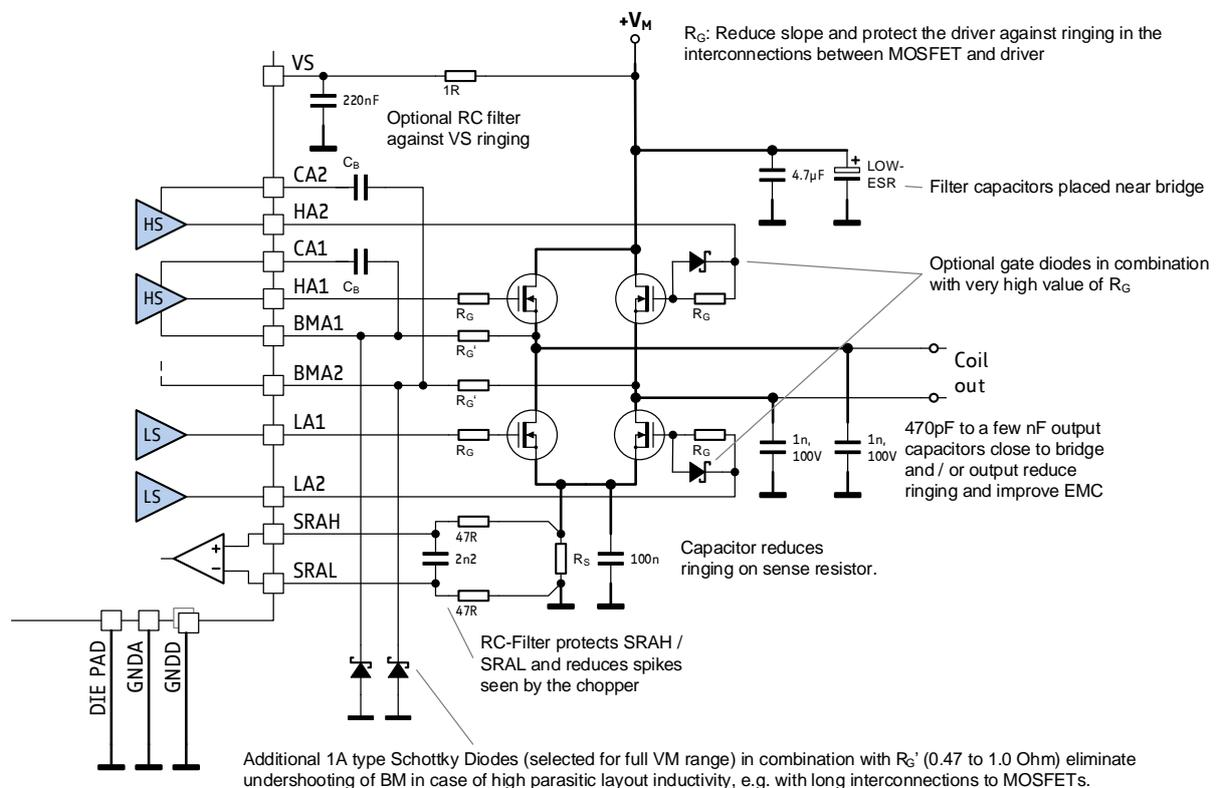
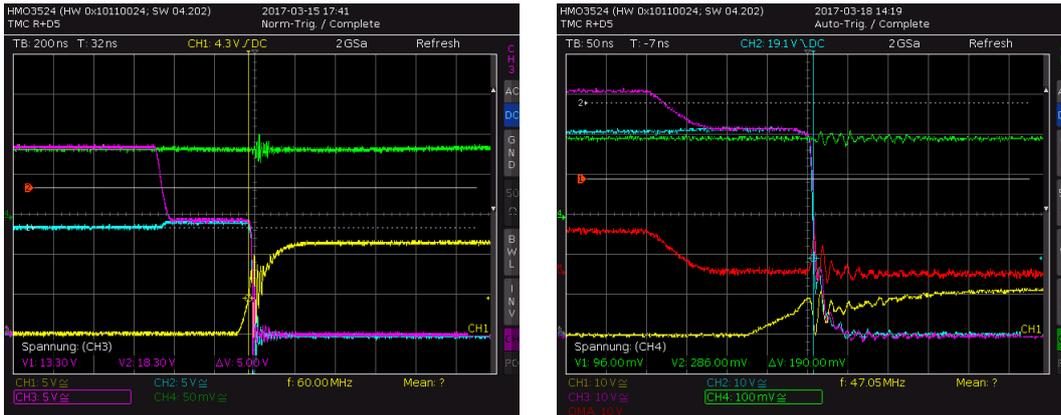
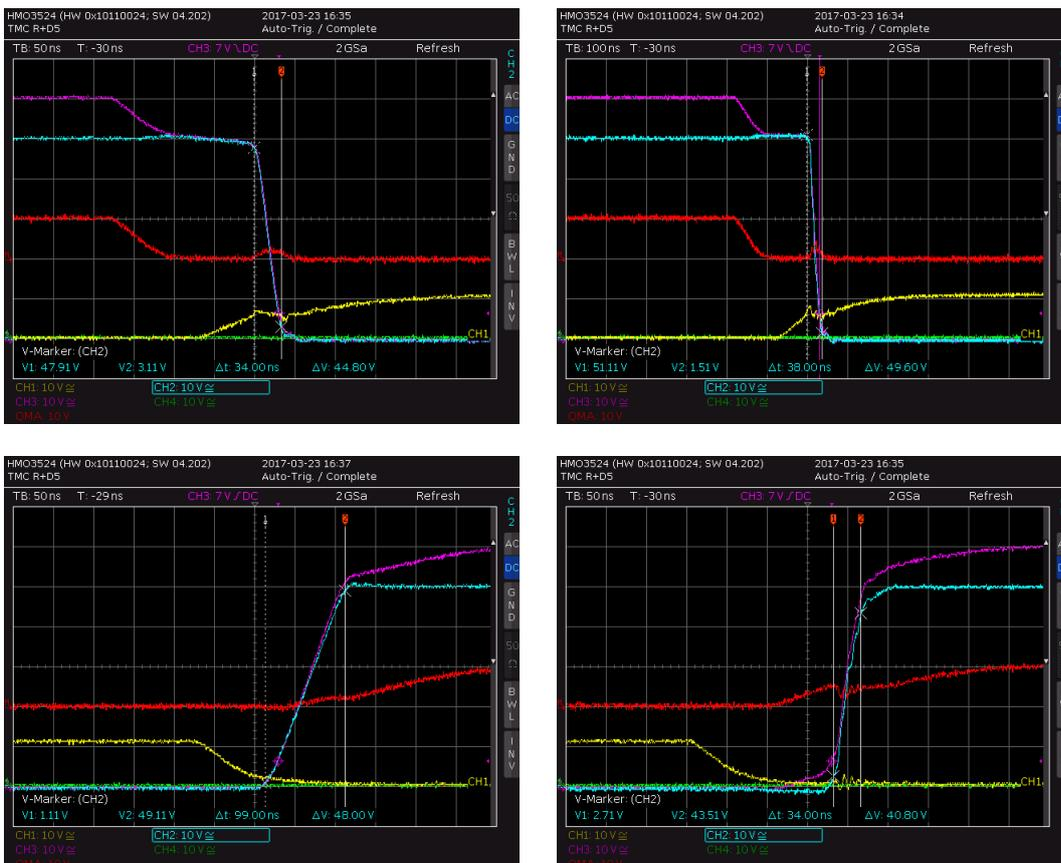
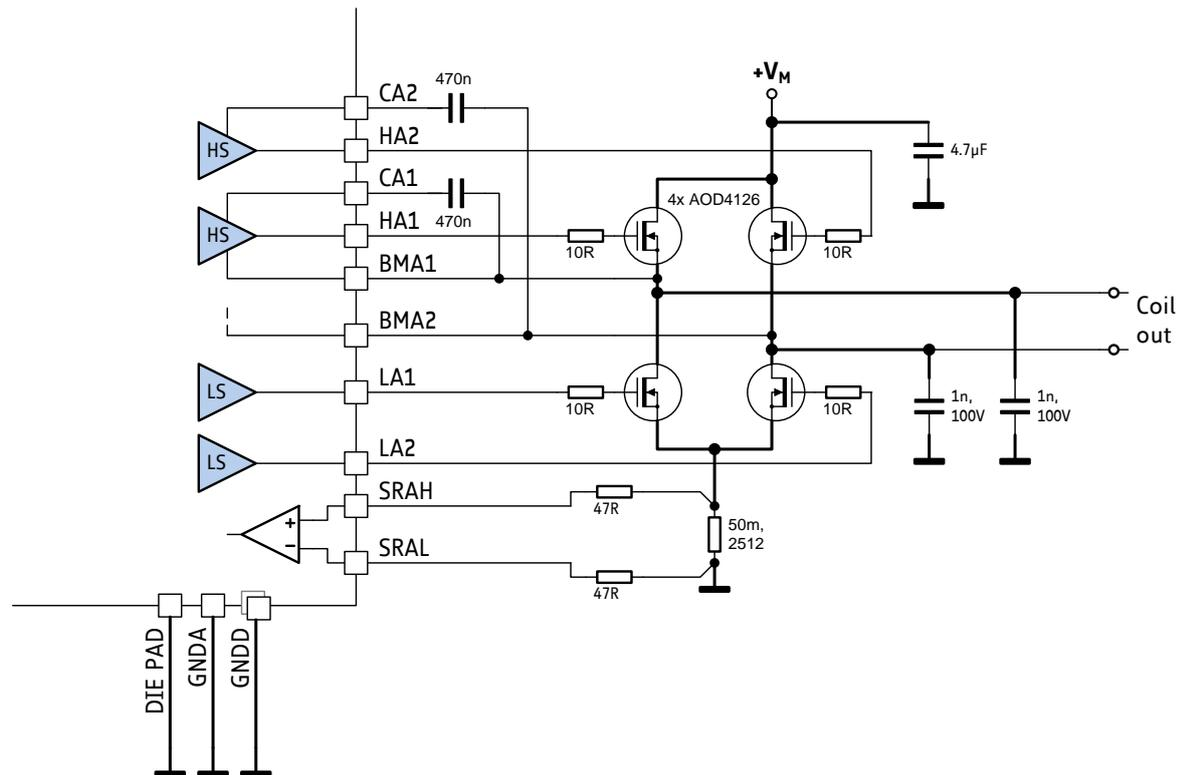

Figure 3.5 Bridge protection options for power routing inductivity
Figure 3.6 Ringing of output (blue) and Gate voltages (Yellow, Cyan) with untuned bridge
Figure 3.7 Switching event with optimized components (without / after bulk diode conduction)
Figure 3.8 Example for bridge with tuned components (see scope shots)
Stray inductance in power routing will cause ringing whenever the opposite MOSFET is in diode conduction prior to switching on a low-side or high-side MOSFET. Diode conduction occurs during break-before make time whenever the load current is inverse to the following bridge polarity. The MOSFET bulk diode has a certain, type specific reverse recovery time and charge. This time typically is in the range of a few 10ns. During reverse recovery time, the bulk diode will cause high current flow across the bridge. This current is taken from the power supply filter capacitors (see thick lines Figure 3.5). Once the diode opens parasitic inductance tries to keep the current flowing. A high, fast slope results and leads to ringing in all parasitic inductivities (see Figure 3.6). This may lead to bridge voltage undershooting the GND level as well as fast pulses on VS and all MOSFET connections. It must be ensured, that the driver IC does not see spikes on its BM pins to GND going below -5V. Severe VS ripple might overload the charge-pump circuitry. Measure the voltage directly at the driver pins to driver GND. The amount of undershooting depends on energy stored in parasitic inductivities from low side drain to low side source and via the sense resistor R_S to GND.
When using relatively small MOSFETs, a soft slope control requires a high gate series resistance. This endangers safe MOSFET switch off. Add additional diodes to ensure safe MOSFET off conditions with slow switch-on slopes (shown for right MOSFET pair in Figure 3.5).
Figure 3.7 shows performance of the basic circuit after adapting switching slope and adding 1nF bridge output capacitors.
- Add optional gate resistors close to MOSFET gate and output capacitors to ensure clean switching and reliable operation by minimizing ringing. Figure 3.5 shows the options plus some variations.
The MOSFETs have a low gate capacitance and offer roughly 50ns slope time at the lowest driver strength setting. At lowest driver strength setting, switching quality is best (Figure 3.6), but still shows a lot of ringing. Low side gate resistors have been added to slightly increase switching slope time following high-side bulk diode conduction by increasing the effect of Gate-Drain (Miller) charge. High side gate resistors have been added for symmetry. Tests showed, that 1nF output capacitors dramatically reduce ringing of the power bridge following bulk diode conduction (Figure 3.7). Figure 3.8 shows the actual components and values after optimization.